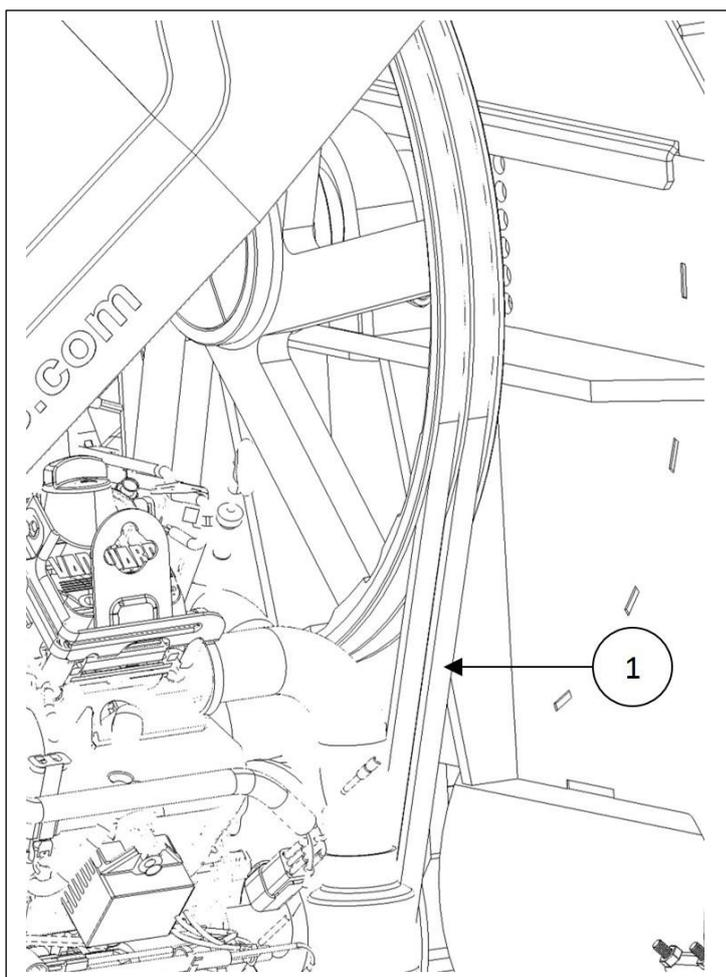

Figure 14
All drive belts are located under the engine cover as shown in Figure 10 and tension checked at arrows shown in Figure 14, Check and set tension as follows:
2. Turn adjuster nut or screw to tension belt until 4.5Kg force at the belt longest centre span deflects by 6mm (see Figure 14). Can be approximated by firmly gripping belt between finger and thumb and twisting. The belt should not be able to be rotated more than 90°.